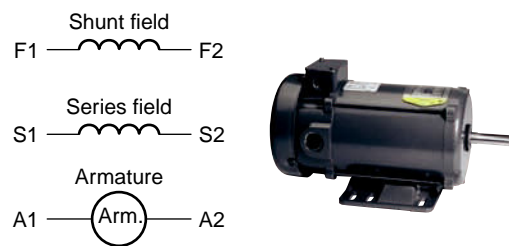

Figure 2-21 Parts of a DC compound motor. Photo © Baldor Electric Company. Reprinted with their permission. Photo Baldor, www.baldor.com.
Figure 2-21 shows the symbols used to identify the basic parts of a direct current (DC) compound motor.